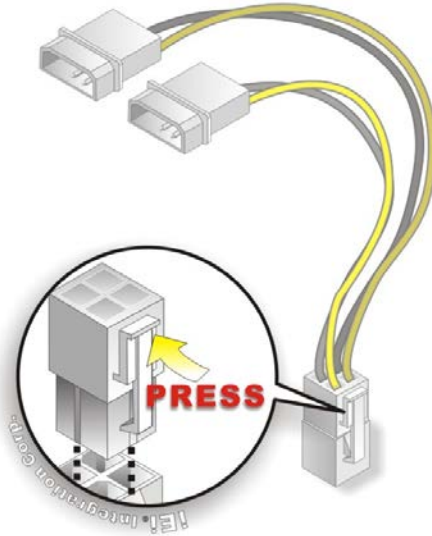

Figure 4-19: Power Cable to Motherboard Connection
Step 2: Connect the Power Cable to the Motherboard. Connect the 4-pin (2x2) Molex type power cable connector to the AT power connector on the motherboard. See Figure 4-19.